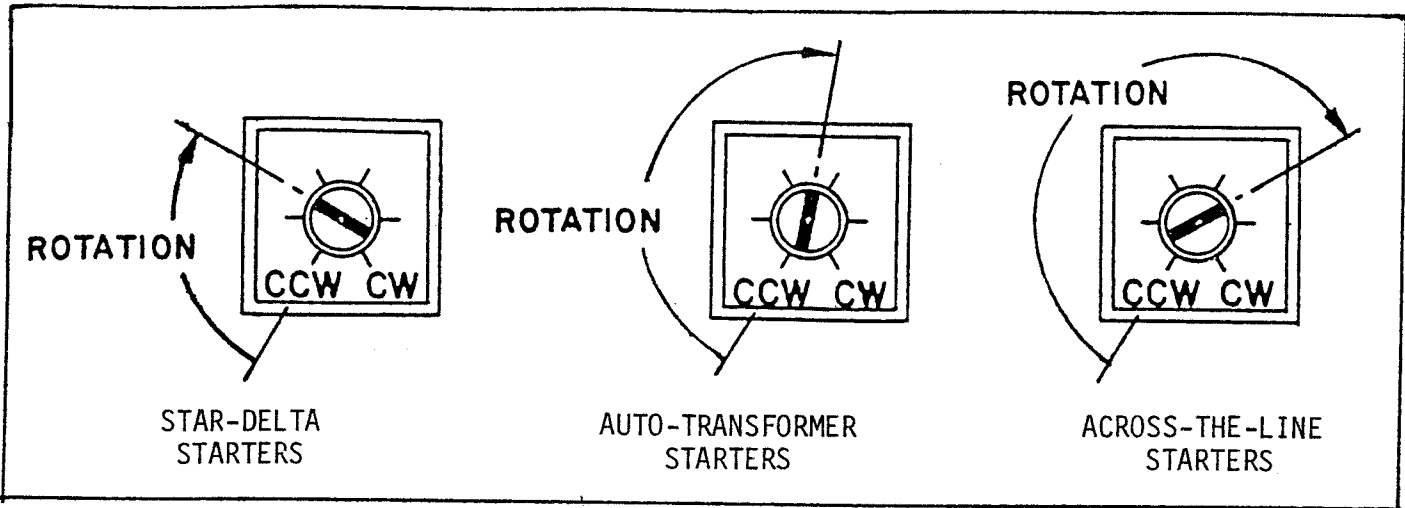

FIGURE 5 - LRA SET POTENTIOMETER POSITIONS FOR DIFFERENT TYPE STARTERS
- C. The correct setting position for the LRA set potentiometer as applied to different types of starters are shown in Figure 5.
- D. To set the LRA set potentiometer, insert a screw driver in the adjusting slot and turn potentiometer to the fully counter-clockwise (CCW) stop. This establishes a reference position. From this point, the potentiometer should be rotated clockwise to the position, shown in Figure 5, which corresponds to the compressor motor starter being used.